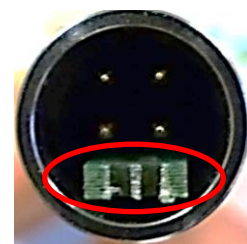

Fig. 3
**Attention:** The connector of the programming adapter (Fig. 3) must be connected in the correct direction → the green spacer must face the cable exit (M12 connector or PG).